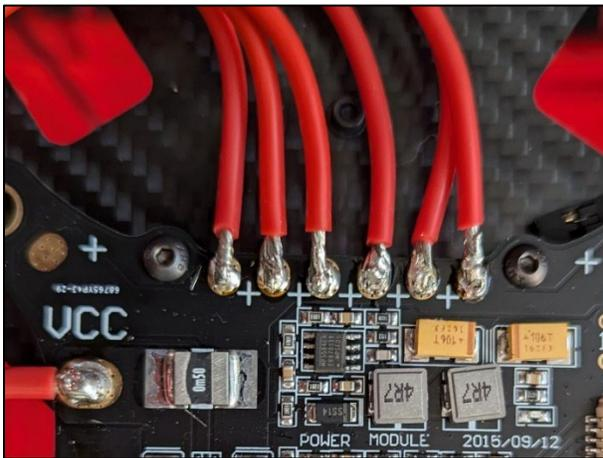
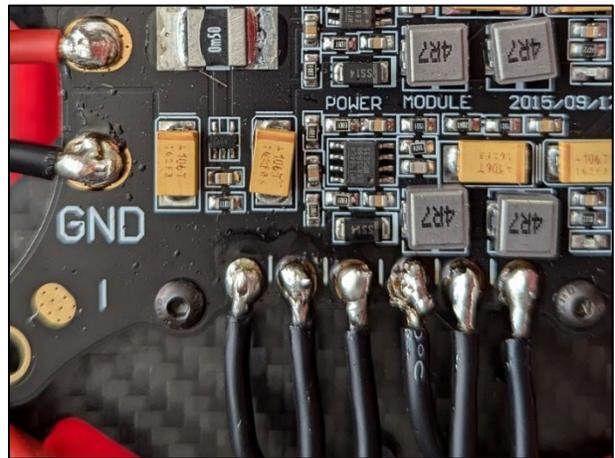

Figure 42 Red wires soldered to the PDB
Figure 43 Black wires soldered to the PDB
3. Solder each ESC's red and black wires to their corresponding pads²⁹ as shown in **Figure 42** and **Figure 43**.